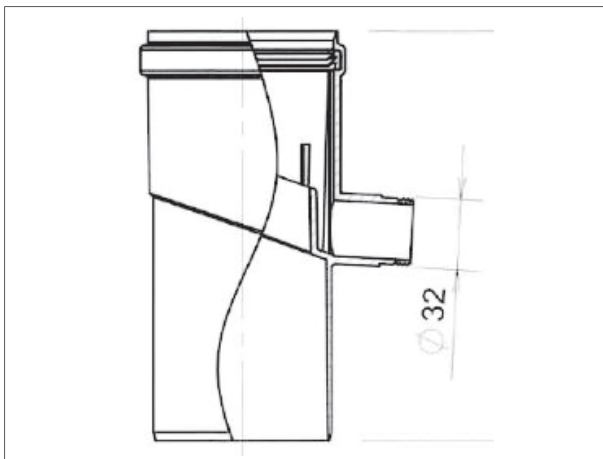

Figure 18 - Condensate drain
- Place a condensate trap (figure 18).